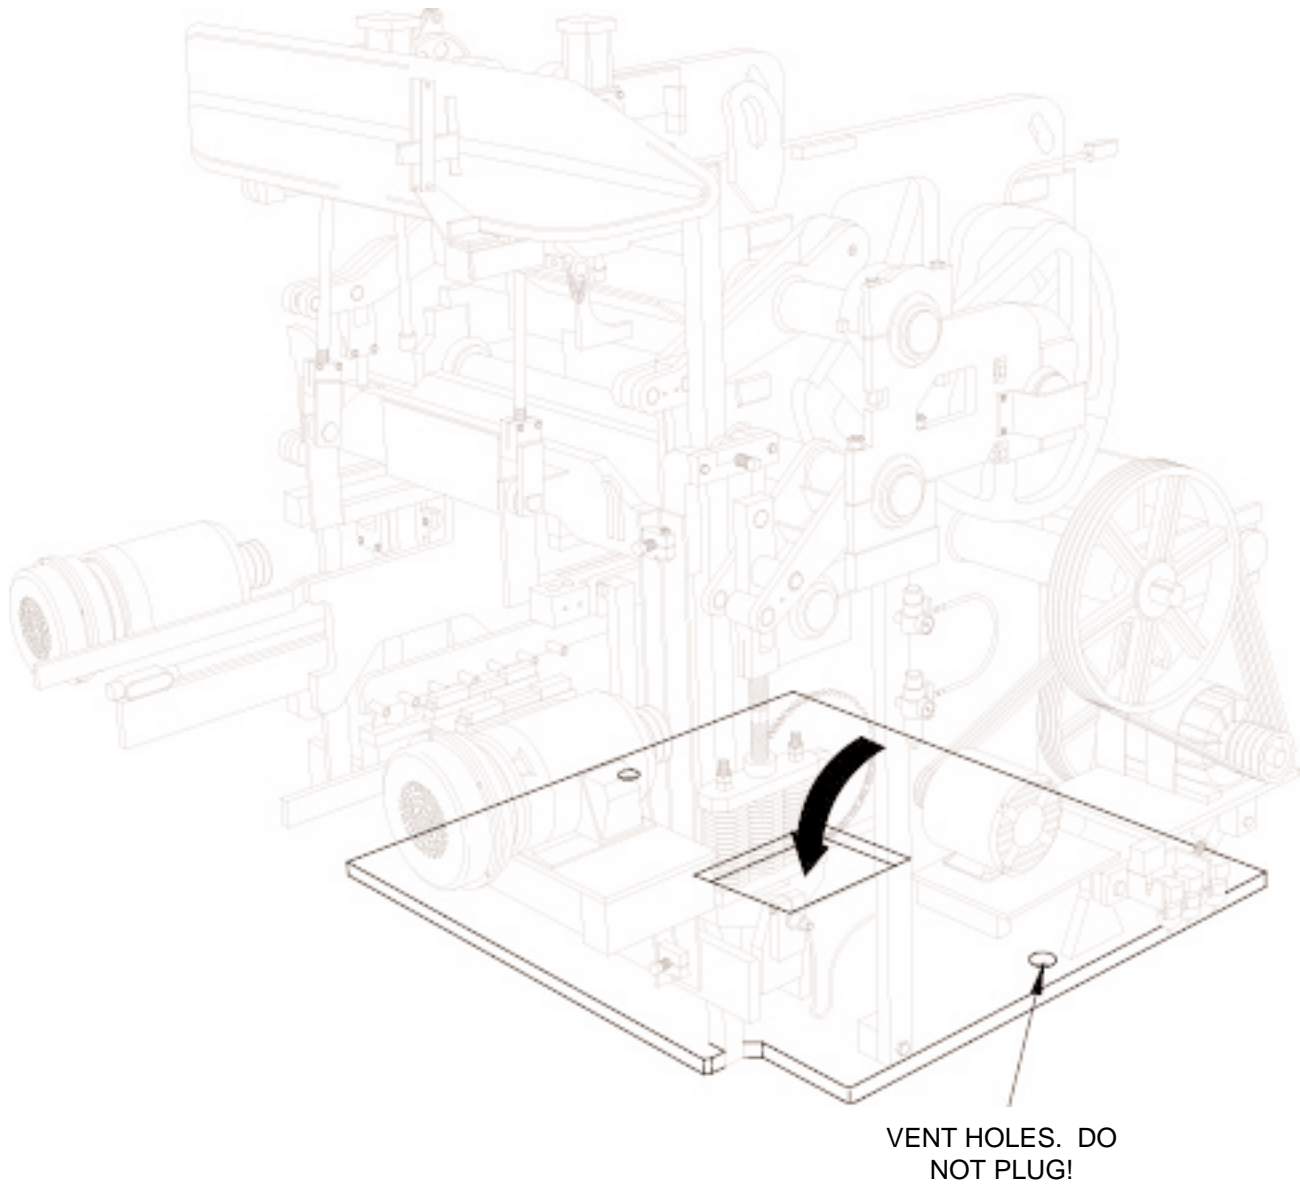

Figure 1.9 POUR NON-SHRINK GROUT INSIDE. FILL-UP TO TOP OF MACHINE BASE PLATE
7. Non-shrink grout should be placed inside the I-beams through the center hole once the block machine has been placed and test run (figure 1.9). This will prevent eventual weld fatigue or base plate flex. 3 3/4 cu.ft. (1.14 m3) of grout is necessary for every inch below the base.